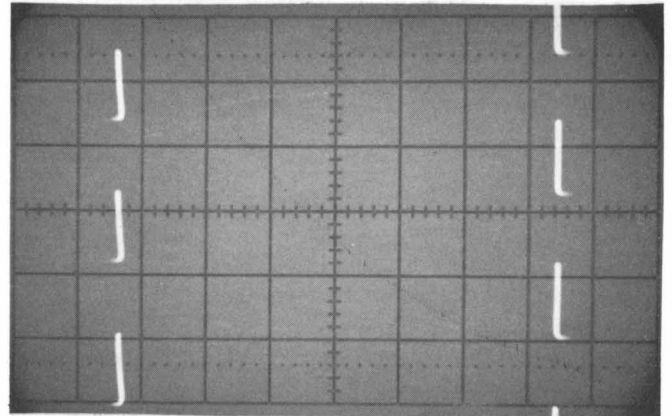

Figure 5-5. Frequency Compensation
f. Center display and adjust TRIGGER LEVEL, if necessary, for a stable display (see figure 5-5).